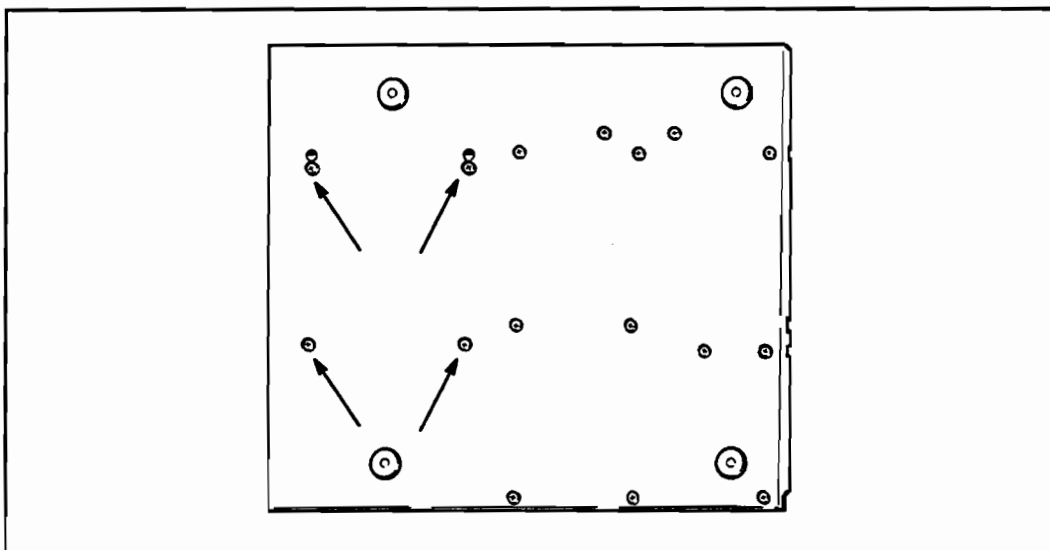

Figure 6-102. Disk Drive Removal
6. While supporting the disk drive inside the VRC, use a 2 pt. Pozidriv screwdriver, remove the four mounting screws on the bottom of the VRC that secure the disk drive assembly to the VRC frame. See Figure 6-102.